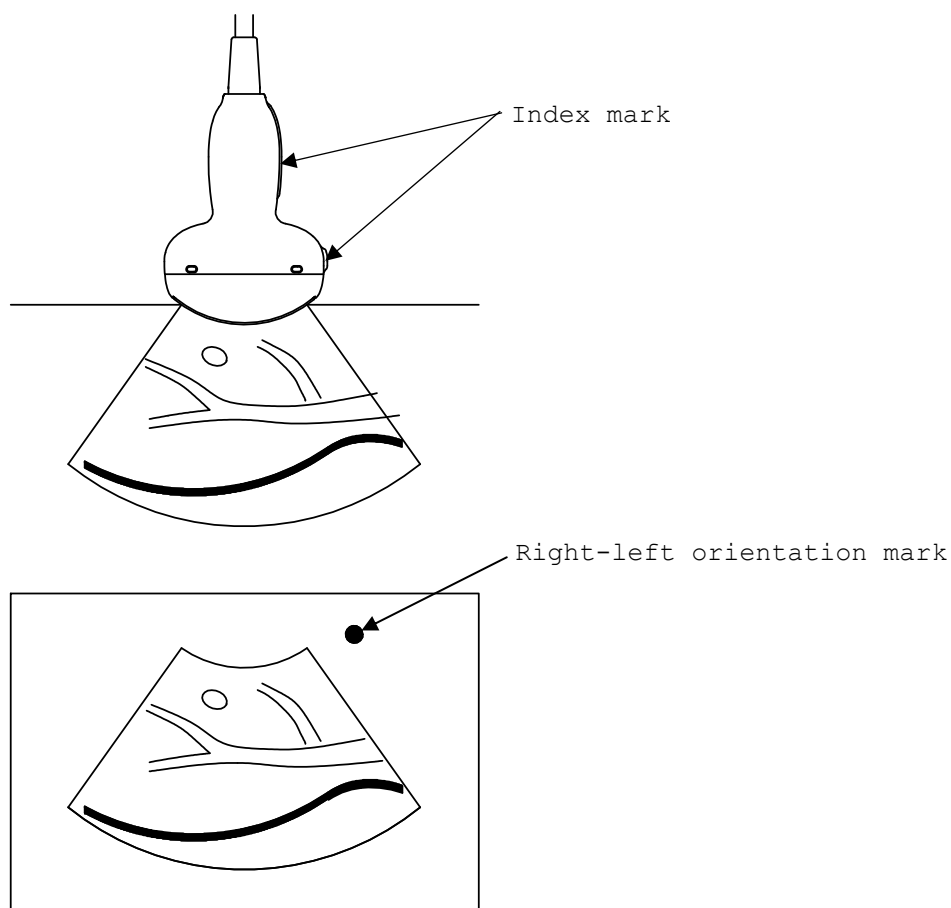

Fig.2 Relationship between the directions of the probe and the Right-left orientation mark
- 3) Confirm the direction of the probe. The relationship between the direction of the probe and image is shown in Fig.2.